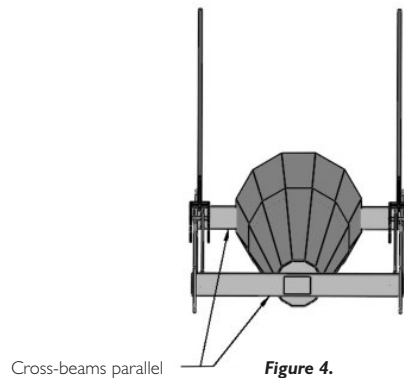

Figure 4.
- 3.8** It is important that the cross beams at either end are parallel with each other when viewed from the end (refer figure 4).